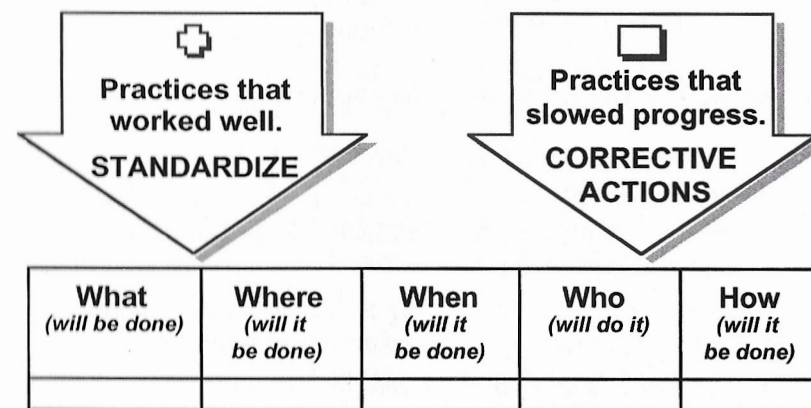

figure 30
- Use the 4W & 1H matrix to describe the practices that worked well and how you plan to standardize these practices (figure 30).